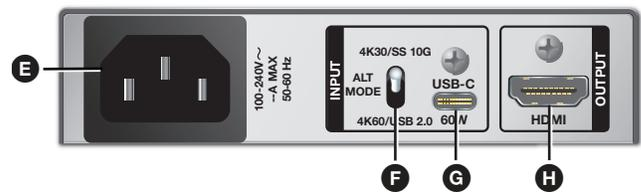

Figure 3. UCS 601 Rear Panel
- B USB 3.2 Type-A Device Ports (3)** — Connect up to three USB peripheral devices (such as cameras, touch displays, and microphones).
- C Power delivery LED** — Indicates status of USB-C power delivery (see figure 3, **G**) to the host PC.
NOTE: Before toggling the DisplayPort Alt Mode switch (see figure 3, F on page 2), disconnect the AC power cord (from E) and USB-C cable (from G) and power cycle. After 45 seconds, reconnect the power cable, followed by the USB-C cable.
G **USB-C Input** (see figure 3 on page 2) — Connect a USB-C source device to the USB-C input.